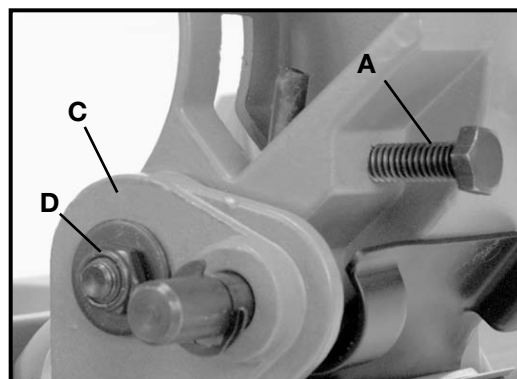

Fig. 28
The tension of the cuttinghead return spring has been adjusted at the factory in order that the cuttinghead returns to the up position after a cut has been made. To re-adjust the spring tension, turn adjusting screw (A) Fig. 28, clockwise to increase or counterclockwise to decrease the spring tension.
After a long period of time, an adjustment of the sliding fit between the cuttinghead arm (B) Fig. 28, and the trunnion (C) may be necessary. To adjust, tighten nut (D). Correct adjustment is a good snug sliding fit between these two parts. This adjustment should not be so tight that it restricts the sliding movement of the cuttinghead arm (B) or so loose that it affects the accuracy of the saw cut.